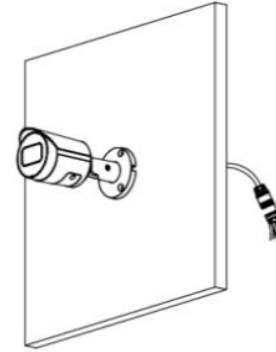

Figure 2-3
**Step 3** Pull the cables through (if applicable) and tighten down the camera base screws. See Figure 2-3.